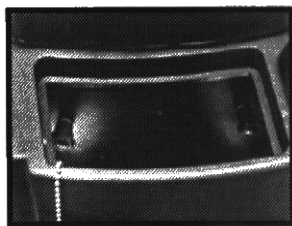

figure 7
- Add the cleaning chemicals to the solution tank and fill with water as needed. (Figure 7)